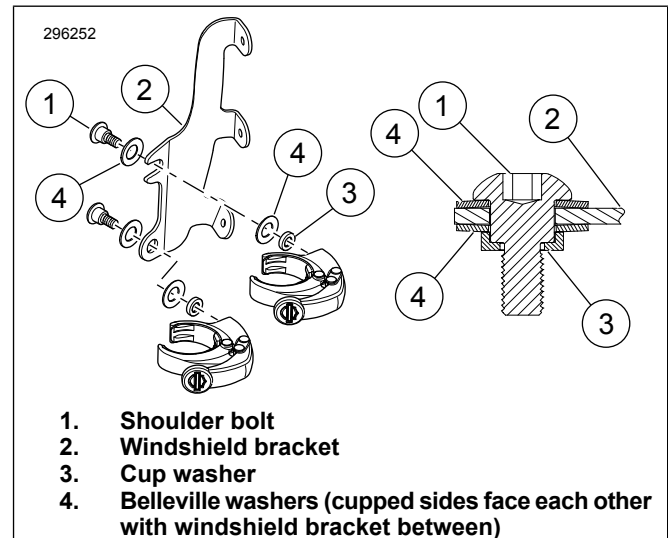

Figure 1. Windshield Mounting Clamp
2. See Figure 1. Loosely install clamp assemblies to the windshield mount brackets (2). Secure with shoulder bolt (1), Belleville washers (4) and cup washer (3) as shown.